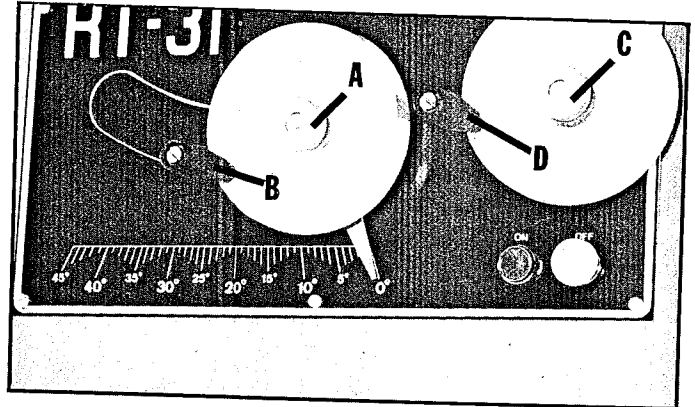

Fig. 43
To raise or lower the saw blade, loosen lock knob (A) Fig. 43, and turn handwheel (B). When the saw blade is at the desired height, tighten lock knob (A).
To tilt the saw blade, loosen lock knob (C) Fig. 43, and turn handwheel (D). The saw blade can be tilted up to 45 degrees to the right. When the saw blade is at the desired angle, tighten lock knob (C).